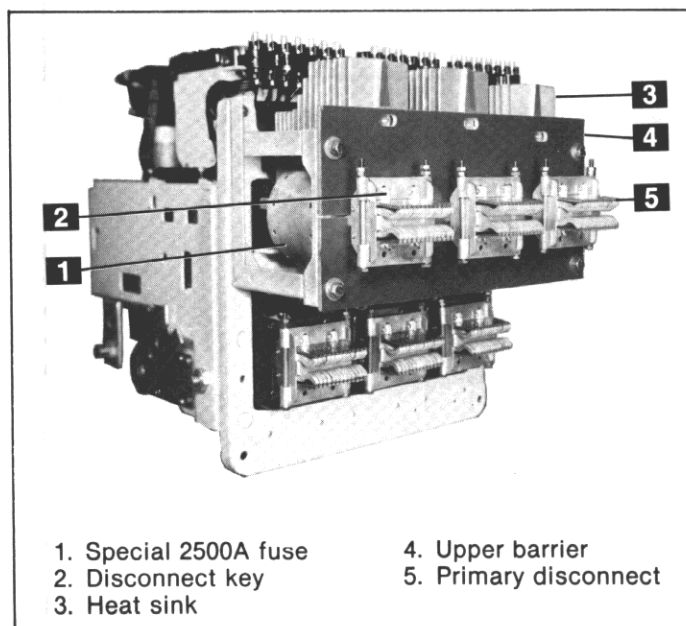

Fig. 5-15. AKRU-50 breaker with special 2500-ampere fuse
A special fuse is available for use with AKRU-50 breakers. This fuse provides a melting time-current characteristic that coordinates with 1600A trip devices. Compared physically with a 2500A, NEMA Class L fuse, the special fuse is more compact (shorter) and its tangs are specially configured and offset to achieve the required pole-to-pole fuse spacing. A special primary disconnect assembly mounts directly on the outboard tang of the fuse. Because of their unique mounting provisions, the following procedure should be adhered to when replacing these fuses (Fig. 5-15):
1. Remove the primary disconnect assembly from the fuse tang. This is accomplished by first loosening the two keys (2), Fig. 5-15, via their holding screw and pulling them upward and out. After the keys are removed, pull the disconnect assembly off the end of the fuse tang.